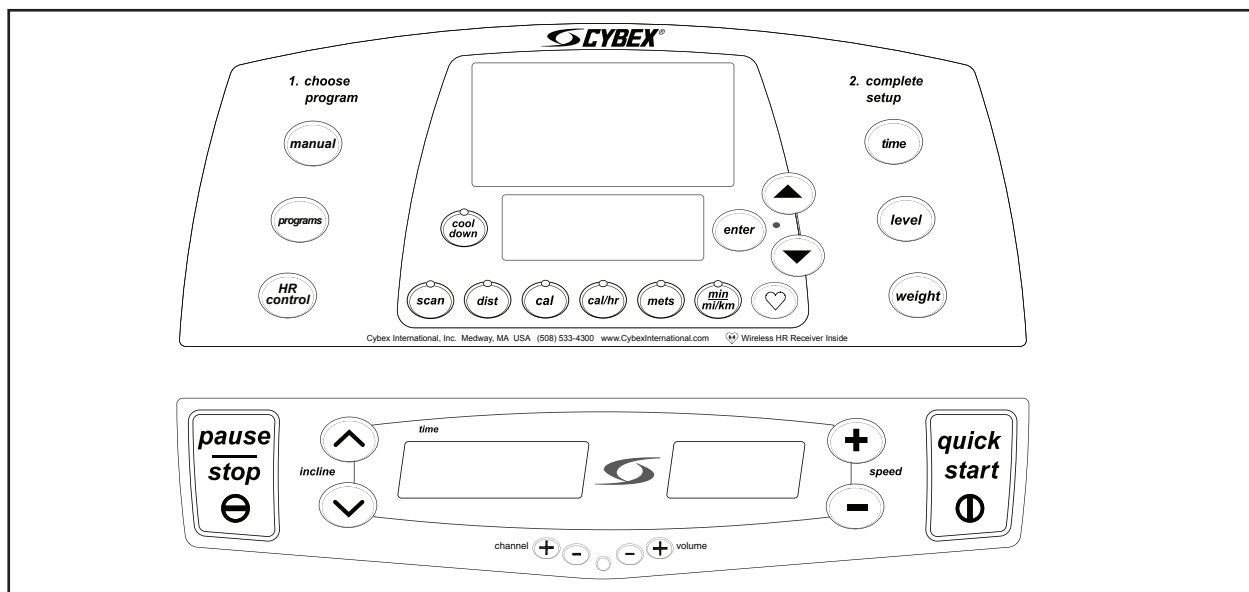

Figure 1
5. The treadmill begins a countdown, “3...2...1” and sounds a tone for each count. When it reaches one (1) the treadmill gives a longer tone and then starts accelerating the belt. In *Manual Mode* the belt will begin accelerating to 0.5 mph (0.8 kph) and the incline will remain at zero percent. In a program the belt will begin accelerating and the incline will change to the corresponding speed and incline of the program and level you selected.
7. Observe the three display windows. The top center window will scan (every three seconds) through **Distance**, **Calories**, **Calories per hour**, **Mets**, **Pace** and **Heart Rate**. Press the **Scan** key to toggle this feature on or off. **NOTE:** *Heart Rate is scanned only when you are holding the contact heart rate grips or wearing a Polar® compatible chest strap.* The left window will display the time. **NOTE:** *During your workout the time will show in the format of minutes:seconds (after 99:59 the display will only show minutes).* The right window will display the current speed. See Figure 1.